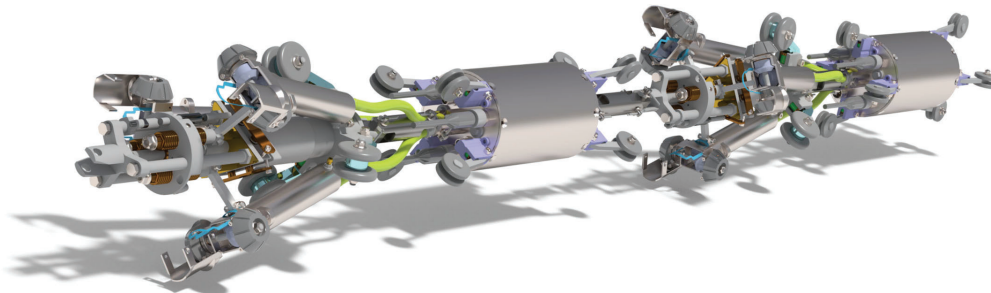

Figure 2: Propulsion unit
- **Propulsions Unit:** The tethered, robotic self-propelled tool uses an electro-crawler module (*Figure 2*) to move through the topside and riser sections. This removes the need for flow or pressure in the risers and eliminates the need for auxiliary pumps during the inspection.